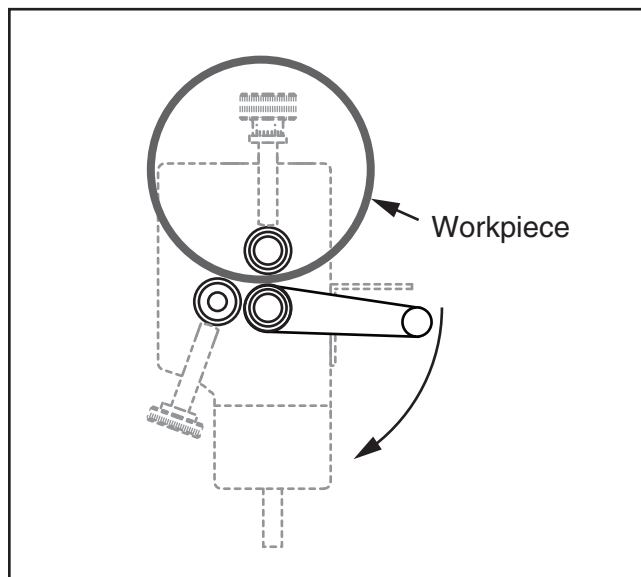

Figure 18. Completing the cylinder.
7. Continue to feed the workpiece through the rollers until the cylinder is formed, as illustrated in **Figure 18**.